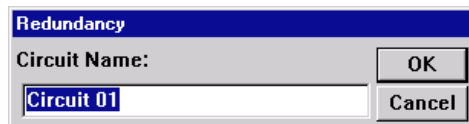

Figure 7-3. Circuit Name Window
2. Drag down to **Rename**, and release. The Circuit Name window, Figure 7-3, will appear.